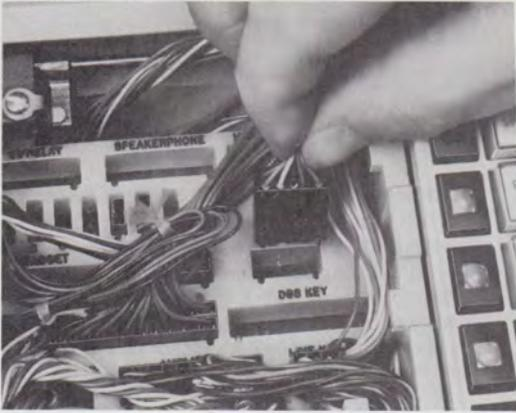

Fig. 51—Unplugging a Component Connector From Interconnect Field
- 5.21 All replaceable components of the 980-series telephone sets have leads terminated in 963-type connectors for plugging into the interconnect field. To disconnect one of the components from the interconnect field, grasp all the wires just above the connector at the cord tie (Fig. 51) and pull straight out. (It is difficult to grasp the jack itself; the wires are attached to it in such a way that